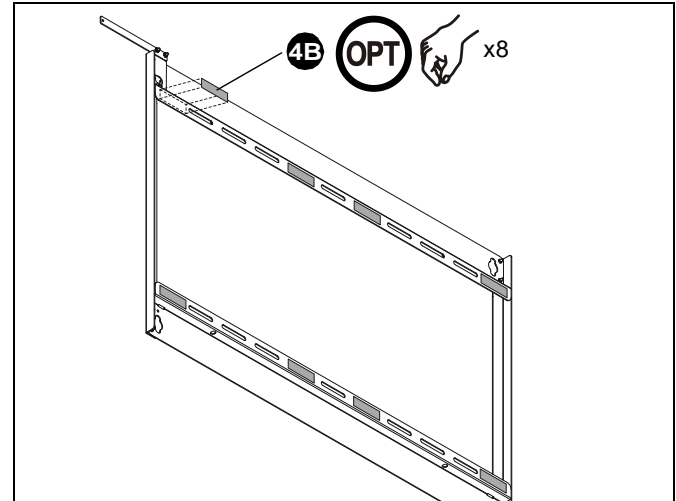

Figure 2
- B. Apply double-sided tape (or equivalent) to back side of mount (See Figure 2).